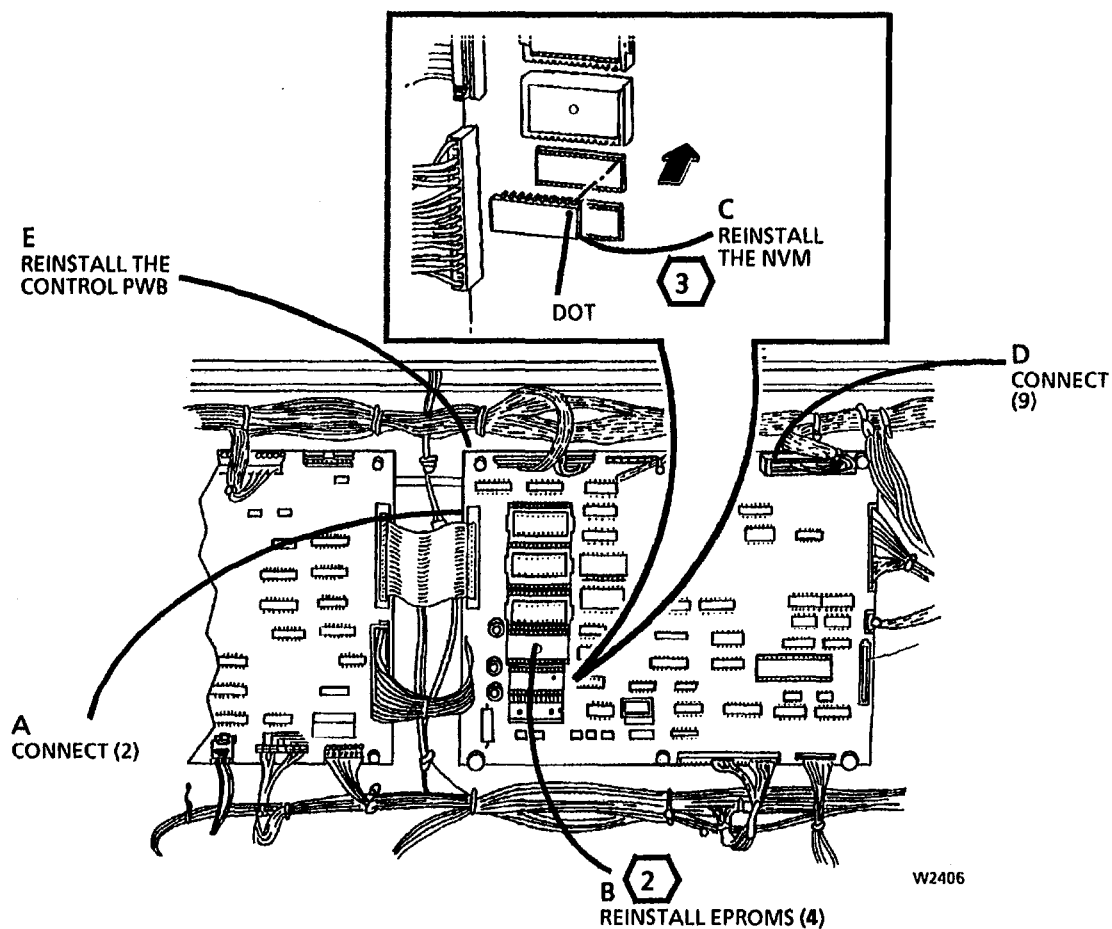

Figure 2. Reinstalling the Control PWB
3 STEP 1C: Ensure that the dot on the NVM is located as shown in Figure 2.
1. (Figure 2): Reinstall the Control PWB.